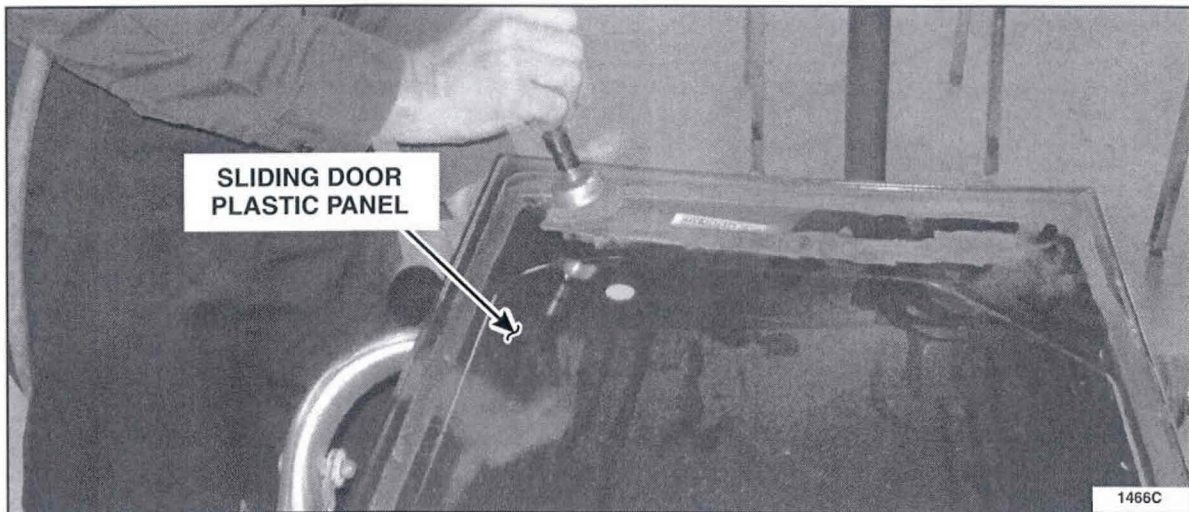

FIGURE 2
3. Remove remaining urethane from sliding door plastic panel using a wire cup air powered rotary tool. Remove both urethane and paint along the adhesive path only to a maximum width of 20mm (0.78 in) and a maximum of 0.2mm (0.007 in) depression into the original surface of the plastic panel. Use care not to remove paint or damage the panel in the area visible when reinstalled. See Figure 2.